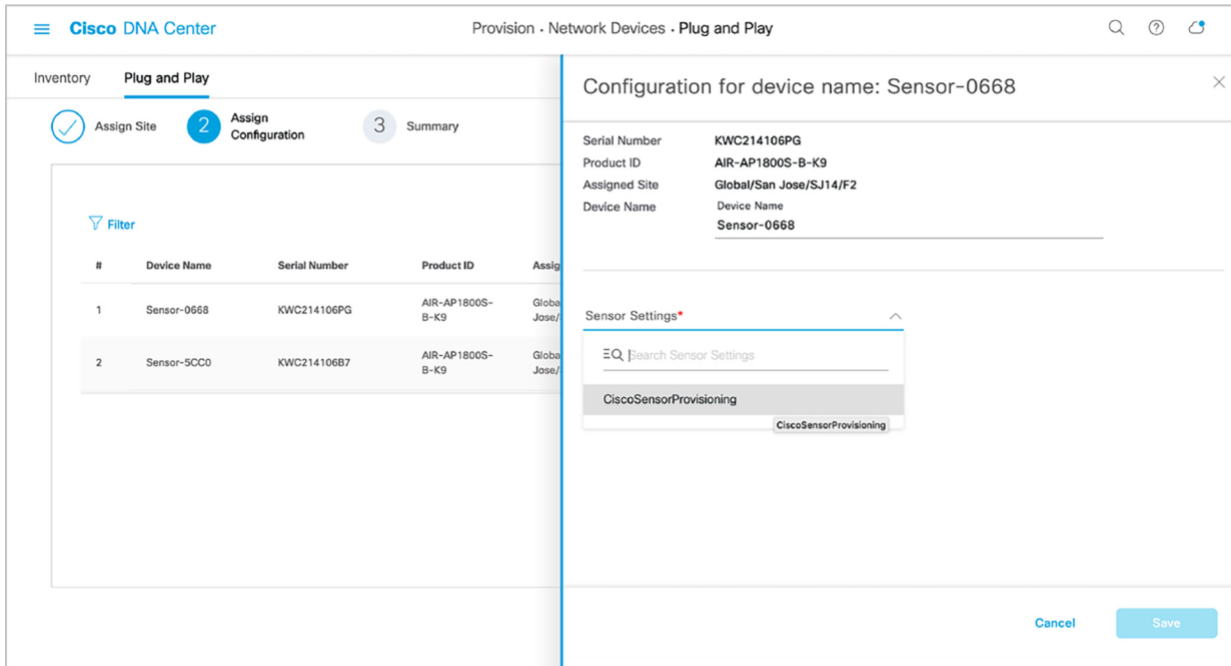

Figure 44.
- f. wireless backhaul: If you didn't create a sensor PnP profile, you can use the default CiscoSensorProvisioning sensor profile which is automatically selected (**Figure 44.**).
- g. wired backhaul: If you are deploying a wired sensor, you must still choose one profile, in which case the default profile is a convenient option (**Figure 44.**).